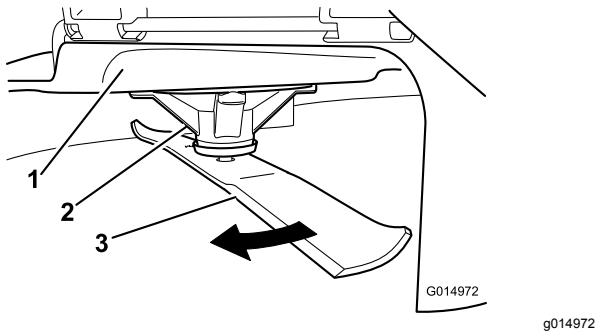

Figure 62
2. While wearing thickly padded gloves, or other adequate hand protection, slowly rotate the blade into a position that allows you to measure the distance between the cutting edge and the level surface the machine is on (Figure 62).